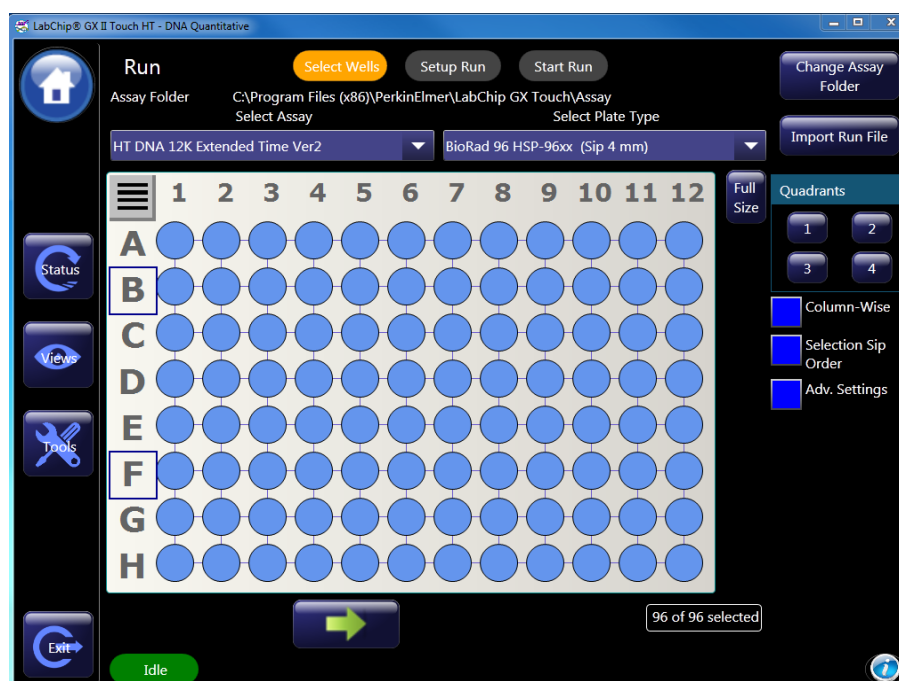

Figure 9. Selecting wells.
- 3 Select the plate name, well pattern, and whether to read wells in columns or rows. Select number of times each well is sampled under *Adv. Settings* (Figure 9). Touch the green arrow button.